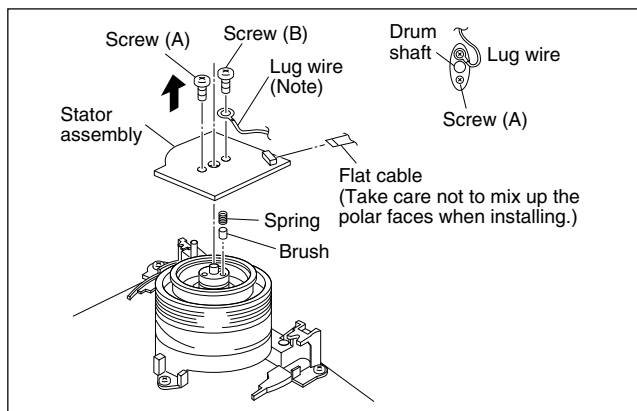
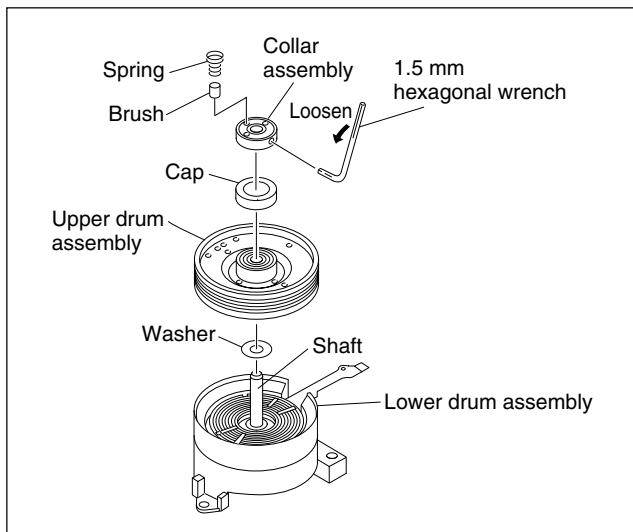
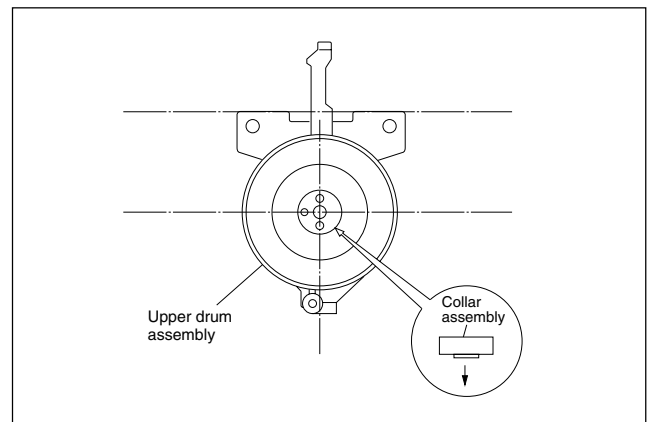

Fig.2-2-17a
Fig. 2-2-19a
Fig. 2-2-19c
- (2) Install a new washer and upper drum assembly on the drum shaft. (See Fig.2-2-19a.)
- (3) Install the cap to the upper drum assembly.
- (4) Position the collar assembly as indicated in Fig.2-2-19c while controlling its up- down movement.
- (5) Secure the collar assembly in position with a hexagonal wrench while pressing its top with the fingers.
- (6) After installation, gently turn the upper drum assembly with your hand to make sure that it turns normally. Then install the brush and the spring.
- (7) Install the rotor assembly and stator assembly according to Fig 2-2-17a and 2-2-18a.
- (8) When installation is complete, clean the upper drum assembly and lower drum assembly and carry out the following adjustments.